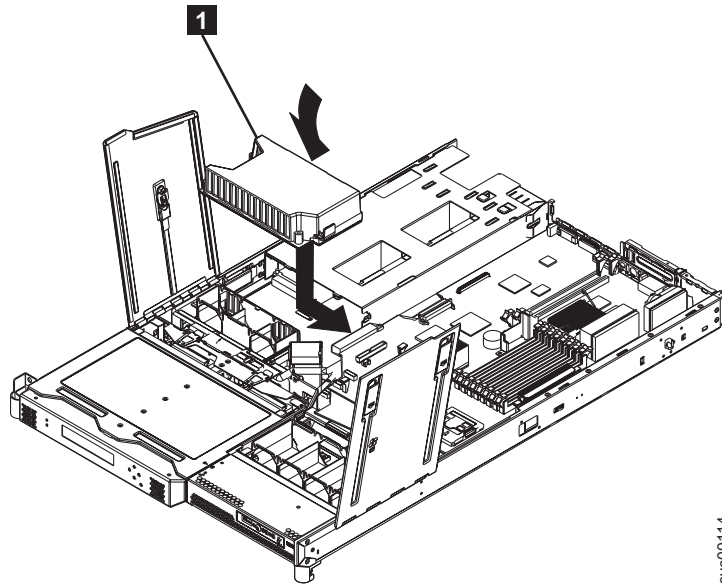

Figure 169. Replacing the SAN Volume Controller 2145-8F4 or SAN Volume Controller 2145-8F2 power backplane
1. Lower the power backplane into position on the SAN Volume Controller 2145-8F4 or SAN Volume Controller 2145-8F2 and slide it to the right to connect it to the system board. See Figure 169 on page 185.